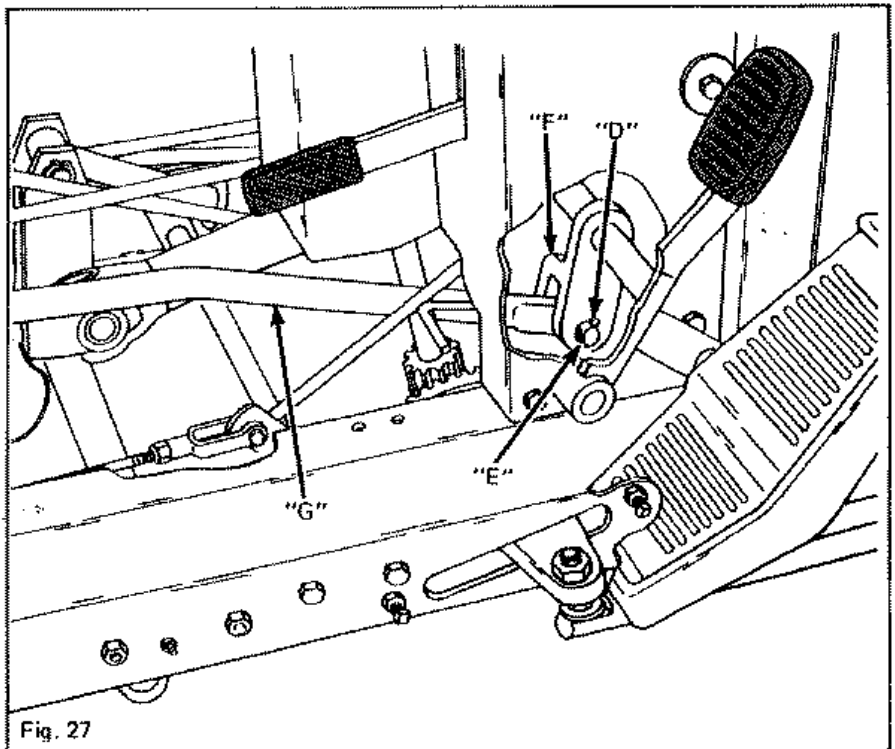

Fig. 27
2. Remove spring cotter "D" from pin "E". Remove pin "E" from control arm "F", Figure 27.
5. After desired adjustment is reached, align hole in pedal end of rod "G" with hole in control arm "F", Figure 27 and secure with pin "E" and spring cotter "D". Lock hex nut "C".